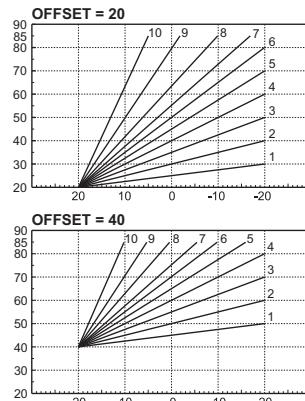

fig. 25- Example of compensation parallel curve offset
**Offset:** Access this sub-menu to access parallel offset of the curves using buttons + and - DHW. Refer to fig. 25 for the characteristics.